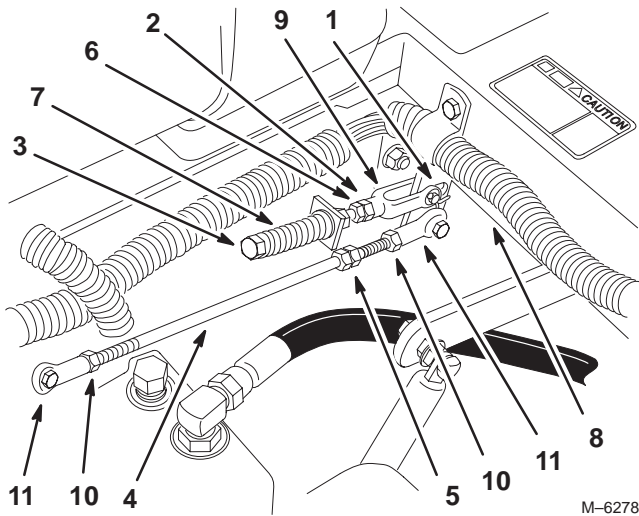

Figure 55
3. Move lever to the neutral position but **not locked** (Fig. 55).
4. Pull lever back until the clevis pin (on arm below pivot shaft) contacts the end of the slot (just beginning to put pressure on the spring) (Fig. 55).
6. If adjustment is needed, loosen the nut and jam nut against the yoke (Fig. 55).
8. Tighten the nut and jam nut (Fig. 55).
1. Loosen the locknuts at the ball joints on pump control rod (Fig. 55).
3. Adjust pump rod length by rotating double nuts on rod, in the appropriate direction, until wheel is still or slightly creeps in reverse (Fig. 55).
6. Tighten the locknuts at the ball joints (Fig. 55).